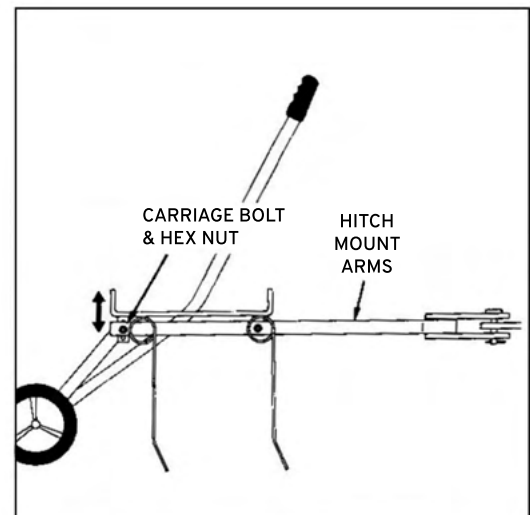

FIGURE 10
1. Place the towing machine on a flat surface, such as a driveway or garage, and attach the spring tine lawn aerator to the vehicle's hitch. See Figure 10.
2. To adjust the base plate with the spring tines, lower the lawn aerator into the operating position using the control lever. Loosen the two hex nuts and carriage bolts that connect the rear ends of the drawbar arms to the mounting brackets. Adjust the base plate so that it is level and that both the front and rear spring tines make contact with the ground. Tighten the hex nuts again. See Figure 10.